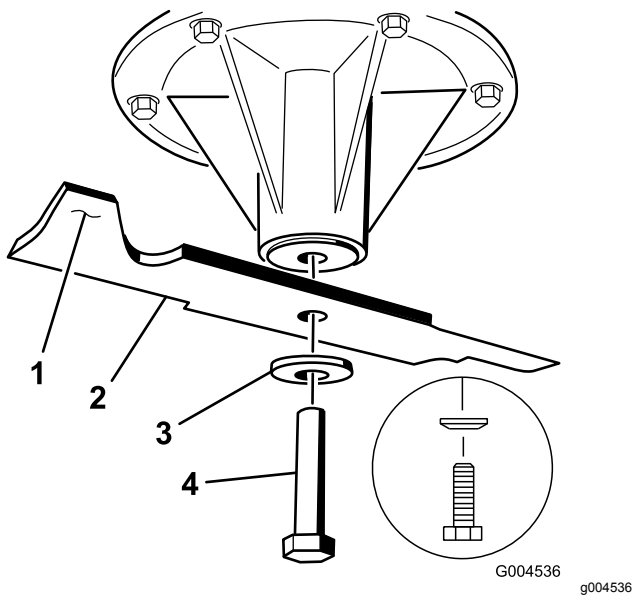

Figure 86
- Install the blade onto the spindle shaft (Figure 86).
- Install the spring disk and blade bolt (Figure 86).